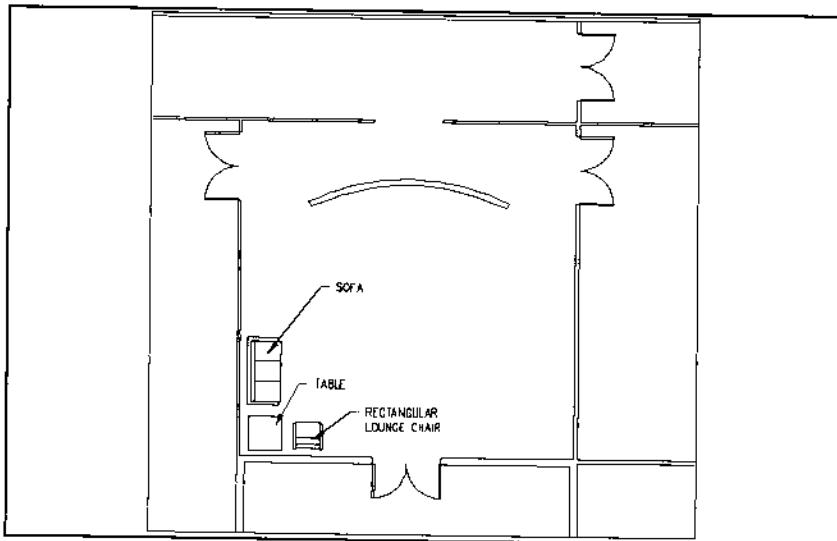

Figure 80.
4. Insert the sofa into the Entry area, as shown in Figure 80.
- > Pick insertion point: [**locate as shown in Figure 80**]
- > Enter rotation angle <0.0>: [**orient as shown in Figure 80**]
4. Insert the symbol into the Entry area as shown in Figure 80.
- > Enter rotation angle <0.0>: [orient as shown in Figure 80]
1. Insert a rectangular lounge chair into the Entry area as in Figure 80.
- > Pick insertion point: [locate as shown in Figure 80]